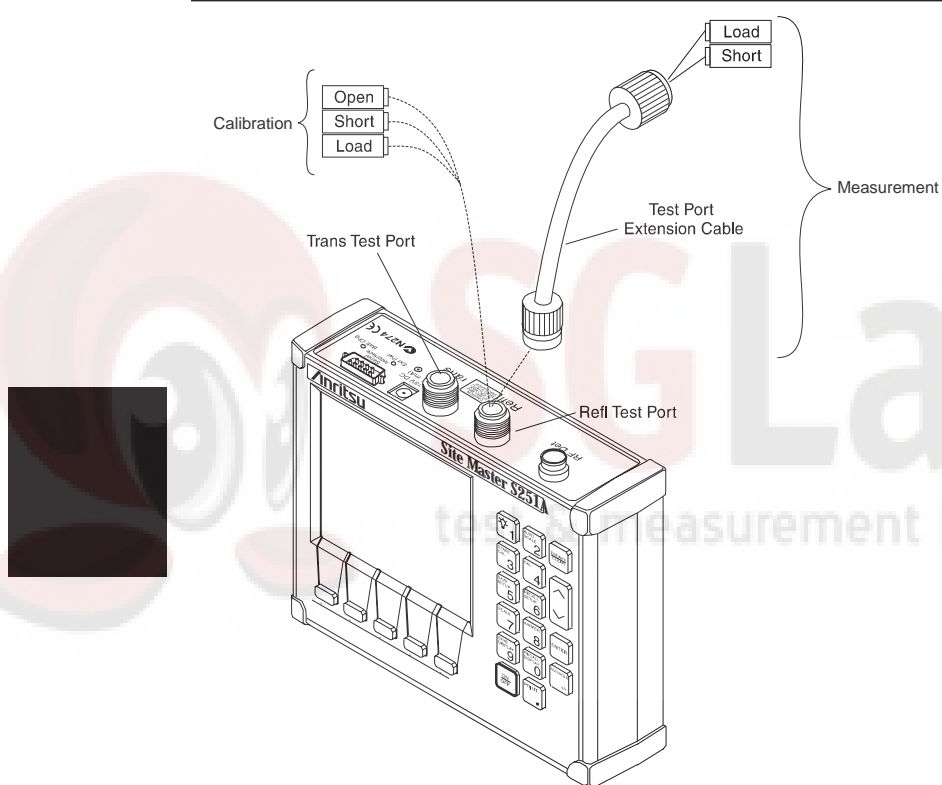

Figure 3-1. One-Port Calibration/Measurement Setup
- Step 10.** Connect the Open to the REFL test port as shown in Figure 3-1. Press the **ENTER** key.
- Step 13.** Disconnect the Load and connect the test port extension cable to the REFL test port. Connect the Load to the open end of the test port extension cable as shown in Figure 3-1.
- Step 21.** Disconnect the Load and connect the Short to the end of the test port extension cable (Figure 3-1). Observe the displayed measurement.